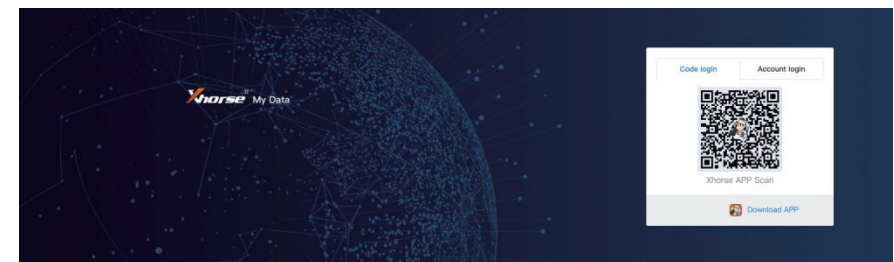

Fig.8.3.2
- ① Open [http:// i.xhorse.com](http://i.xhorse.com)
- ② Scan the QR code to log in as shown in Fig. 8.3.2.